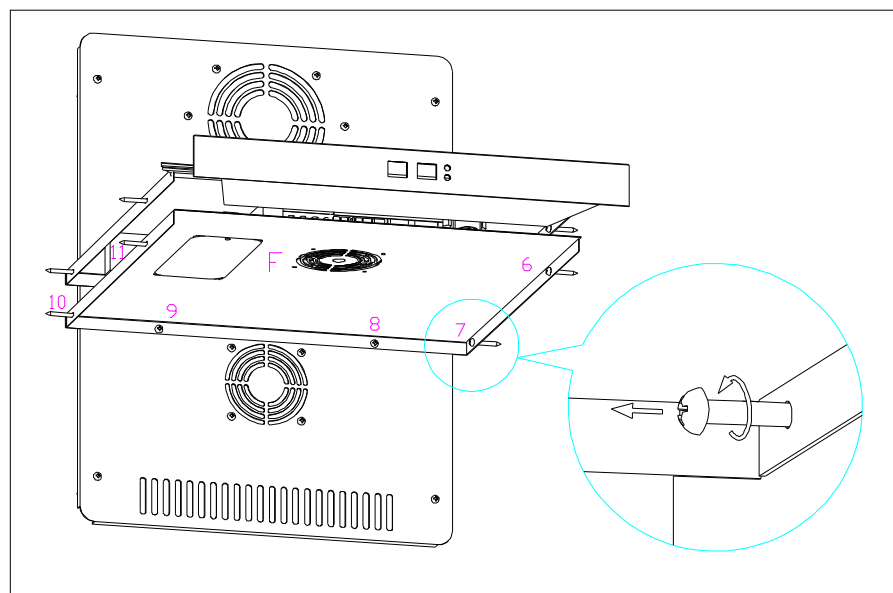

Fig.8
c.Remove screws (6,7,8,9,10,11), then remove the lower cover of middle air duct board (F); (Fig.8)